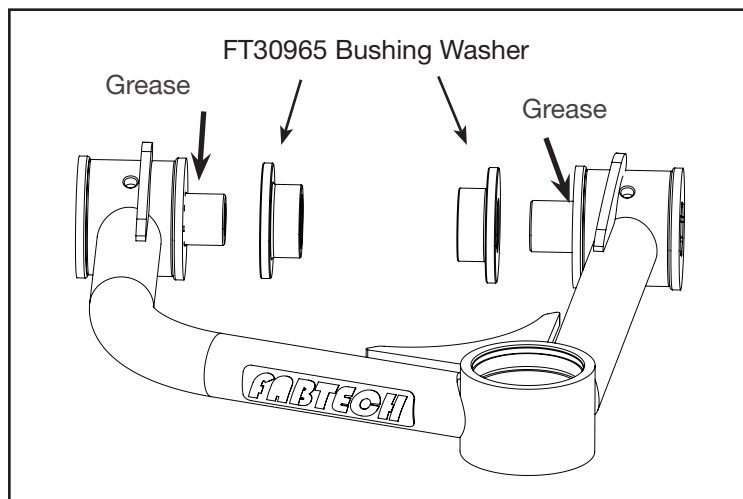

FIGURE 3 - STEP 7
7. Attach two FT30965 (Bushing spacer) onto the sleeves. **SEE FIGURE 3. NOTE: Apply grease between the bushing and FT30965 washer.**